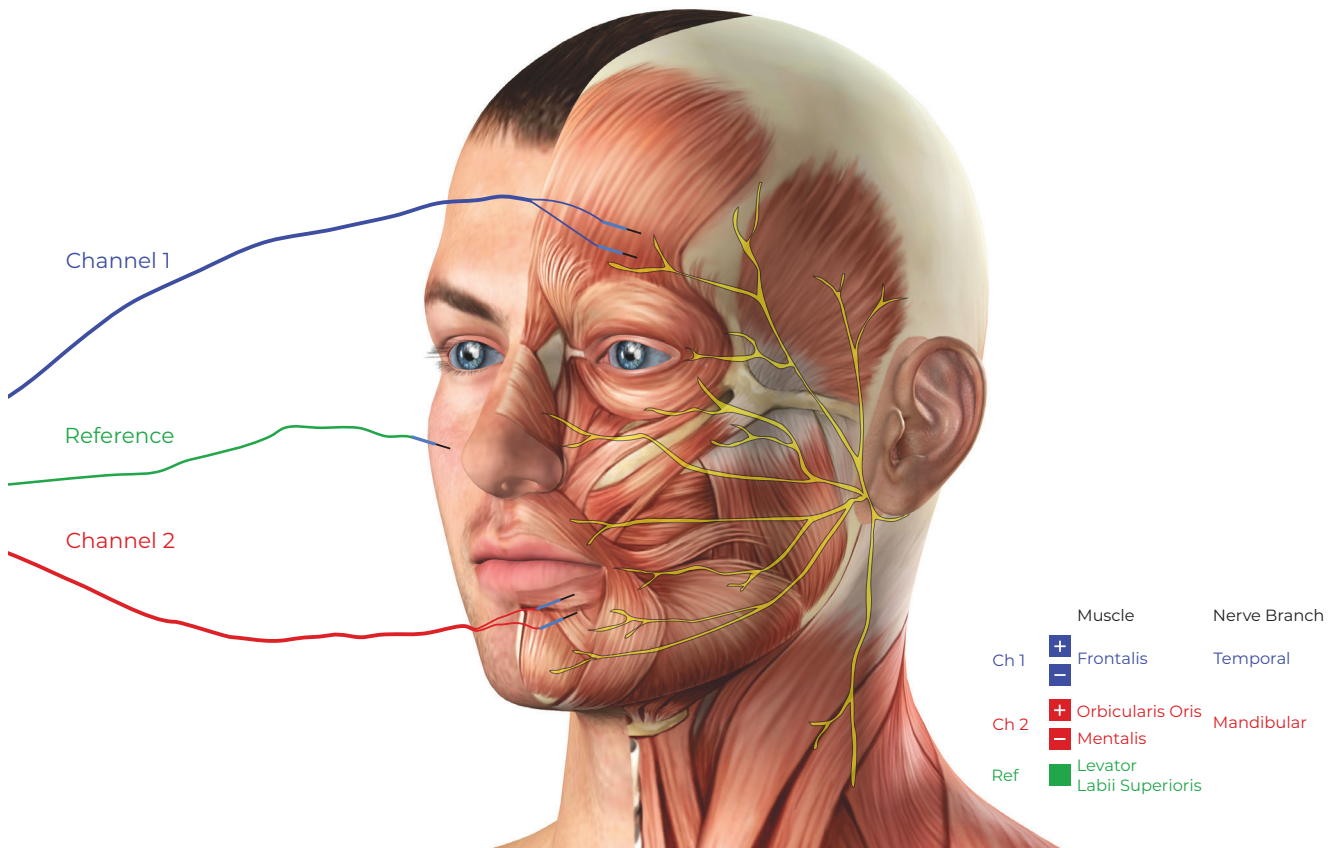

Figure 5.1: Suggested electrode placement during surgery involving the mastoid process.
2. Insert each pair of Subdermal Needle Electrodes into the appropriate muscles indicated in Figure 5.1 (page 9), with the wires leading away from the surgical site. Ensure that the needles of each electrode are inserted adequately into the muscle and not simply under the skin.